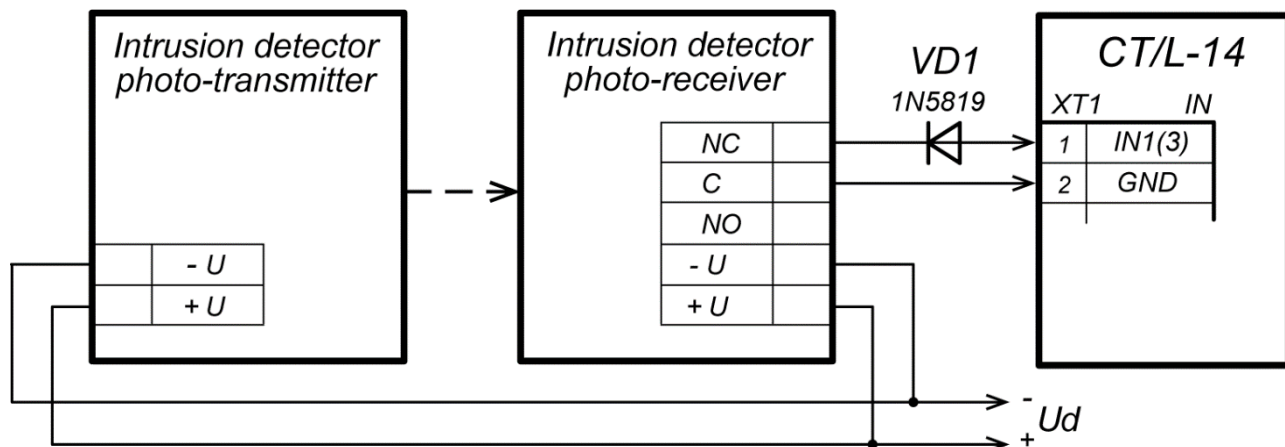

Figure 9. Connection layout of intrusion detectors
3. Connect intrusion detector to **XT1** terminal block of the lower board of the controller in accordance with the layout, shown in Fig. 9. Use cable #4 for connection (Table 3). If several sensors are connected, their outputs should be turned on successively.